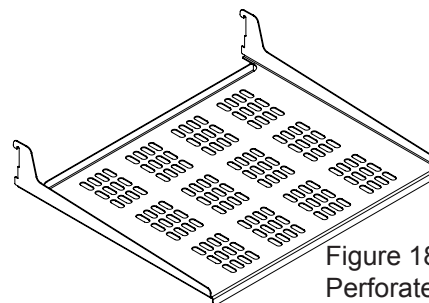

Figure 18
(2) perforated metal cantilever shelves. (See Figure 18).